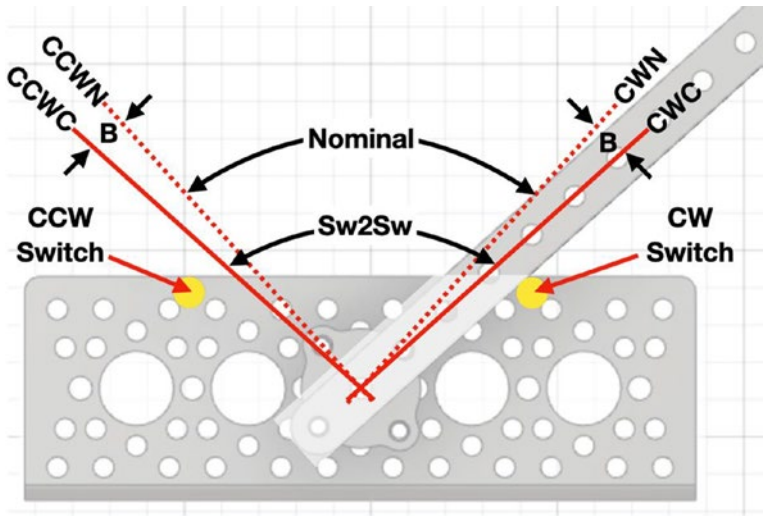

**Figure 14-6.** Wand position at switch closure
We now need to do some more design. To start, look at Figure 14-6, which shows the position of the wand when it closes the *clockwise* switch; this *clockwise closure* position (CWC) is marked by the *solid* line through the wand. The *solid* line on the left shows the *counterclockwise closure* position (CCWC).
With the Metronome version of Listing 14-6, the wand first moves from its arbitrary starting position to CWC. We don't care how many steps that takes. The wand then moves from CWC to CCWC. That requires some number of steps, labeled Sw2Sw in Figure 14-6. So, Sw2Sw is the number of steps to move the wand from CWC to CCWC, or from switch closure to switch closure. But we want to move the wand back and forth *without* switch closure. We should be able to achieve that by moving fewer steps, that is, between the *dotted* lines in the figure; those dotted lines represent a *clockwise non-closure* position (CWN) and a *counterclockwise non-closure* position (CCWN). Basically, we need to define a buffer number of steps ("B" in the figure) between a switch closure position (e.g., CWC) and a switch non-closure position (e.g., CWN). With these concepts in place, we can determine that the number of steps required to move from
- CWN to CCWN (“Nominal” in Figure 14-6) =  $Sw2Sw - (2 \times B)$